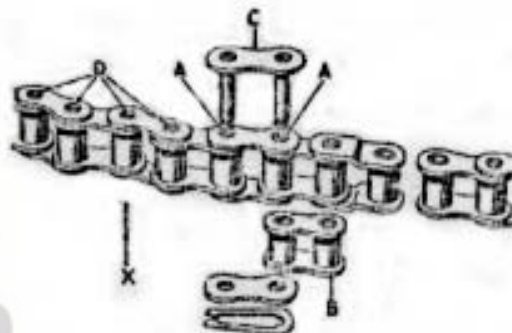

Fig. 45.
connecting link (C). The connection is made with an additional spring link (D). If one end of the chain has a double cranked link (Fig. 45) – in which case the chain will have an odd number of pitches – extract the second and third rivets (A), releasing the cranked link unit complete, which can be retained for future use. Replace the one inner link (B) and again connect up with an additional single connecting link (C).
If a roller or link has been damaged (X, Fig. 45) remove rivets (D), take out the damaged link and replace with one inner link, secured by two single connecting links.